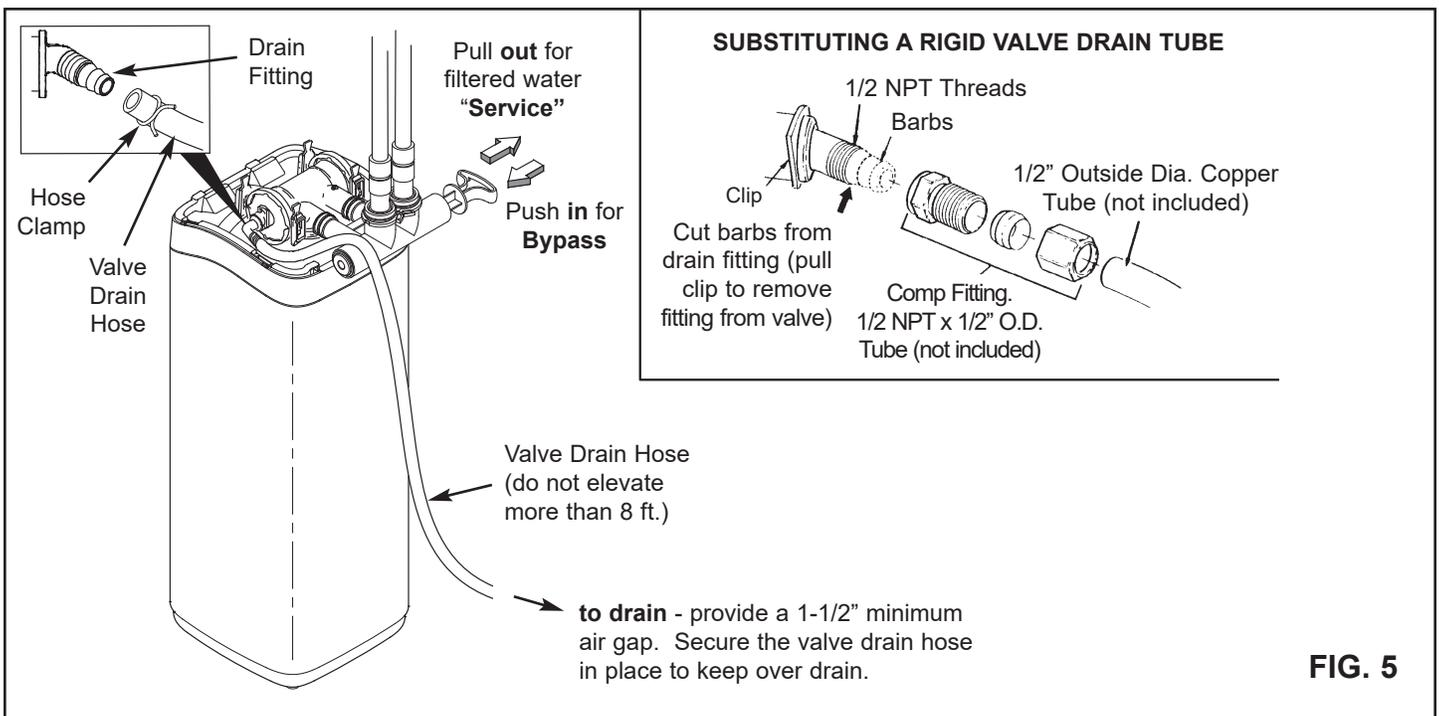

FIG. 5
Using 1/2" I.D. flexible drain hose, measure and cut to the length needed. Flexible drain hose is not allowed in all localities (check your plumbing codes). If local codes do not allow use of a flexible drain hose, a rigid valve drain run must be used. Purchase a compression fitting (1/2 NPT x 1/2 in. minimum tube) and 1/2" tubing from your local hardware store. Plumb a rigid drain as needed (see Figure 5).
- a. Take a length of 1/2" I.D. hose and attach to the valve drain elbow fitting (See Figure 5 on page 7). Use a hose clamp to hold the hose in place.
- b. Locate the other end of the hose at a suitable drain point (floor drain, sump, laundry tub, etc.). Check and comply with local codes. Refer to Figure 5 on page 7 if codes require a rigid pipe drain run.
1. Make sure the drain hose is attached to the Central Water Filtration System and the other end is secured over a drain (see Figure 5 on Page 7).
3. **Start a recharge:** From the rolling status screens, press the SELECT (O) button to display the **Main menu**. Make sure **Recharge** is highlighted, then press SELECT (O). Press DOWN (▼) to scroll to **Recharge now**, then press SELECT (O) twice. You should hear the valve motor run as the filter begins recharging.